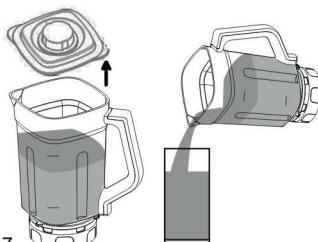

Fig 7
- Lift off the lid and serve directly from the blender jug (4). Fig 7.